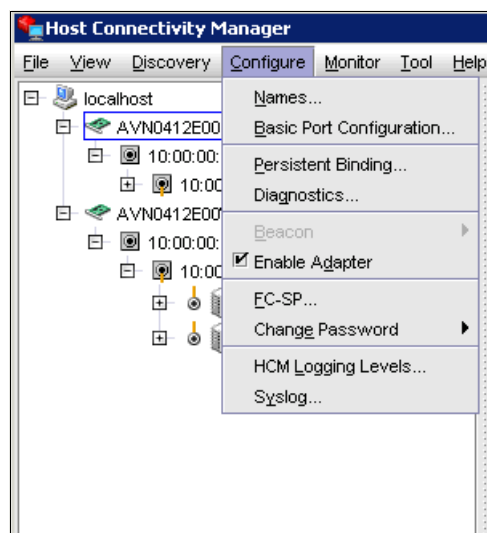

Figure 5-112 HCM Configure menu
- ▶ Configure HBA/port settings, persistent binding, and diagnostics (Figure 5-112 on page 423).